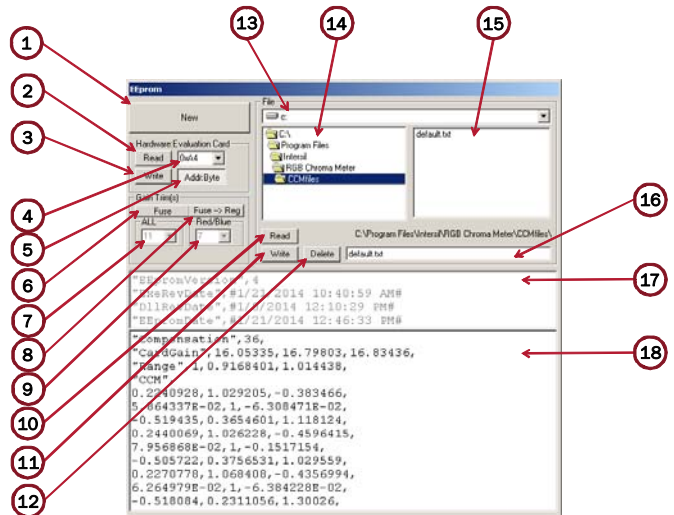

FIGURE 13. EEPROM LOAD CCM (CORRECTION COLOR MATRIX) FILE
2. If the cross-point does not display to match with the color temperature light bulb, the user needs to check x, y and z values at left GUI panel. If x, y and z are all -1, Color Correction Matrix (CCM) did not load properly. The user should click on the "CCM" button at top left corner in the GUI Panel. Another pop-up window will display as shown in Figure 13.
5. User should copy the CCM, which is highlighted in Green color "EEPromVersion3" then paste into item 14 shown in Figure 13.
6. Click "Write" at item 3 then "Read" at Item 2 to configure the EEPROM on the evaluation board.
7. Click "Write" at item 7 then "Read" at item 6 to save CCM into file.